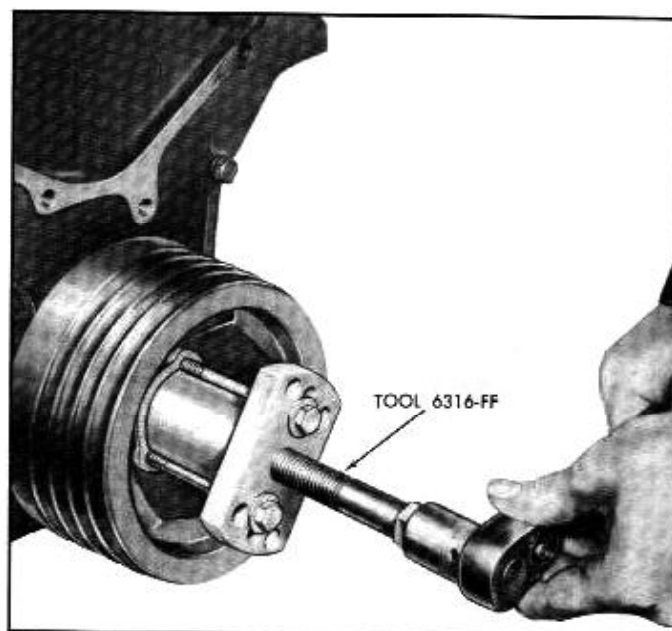

Fig. 6C-43—Removing Crankshaft Damper Assembly
17. Remove screw and washer securing crankshaft damper to crankshaft. Remove crankshaft damper with Tool 6316-FF. See figure 6C-43. Remove Woodruff key from crankshaft.